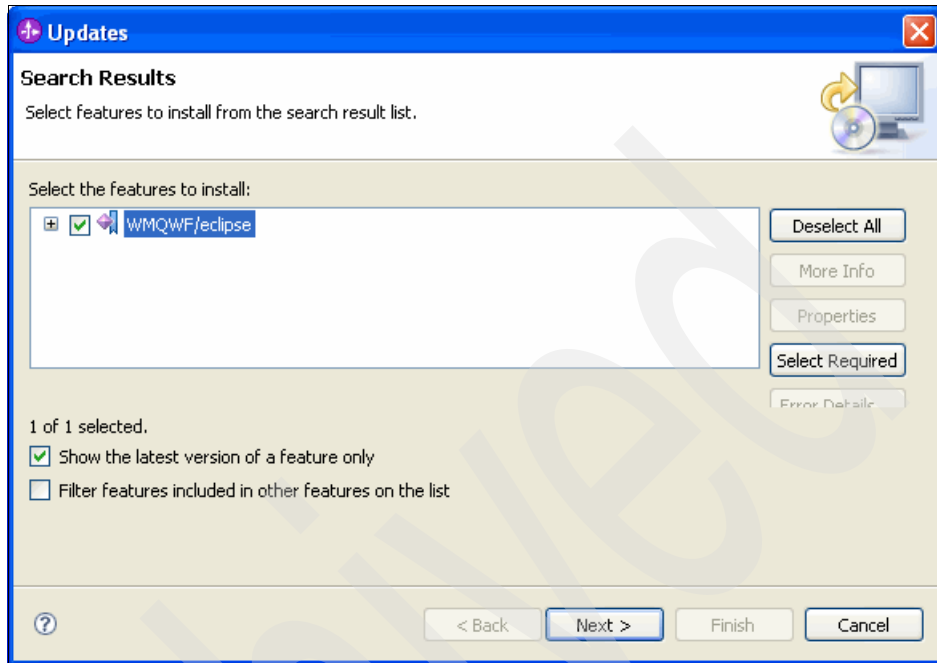

Figure 8-39 Selecting the newly created feature
8. In the Updates window (Figure 8-39), select **WMQWF/eclipse** and click **Next**.